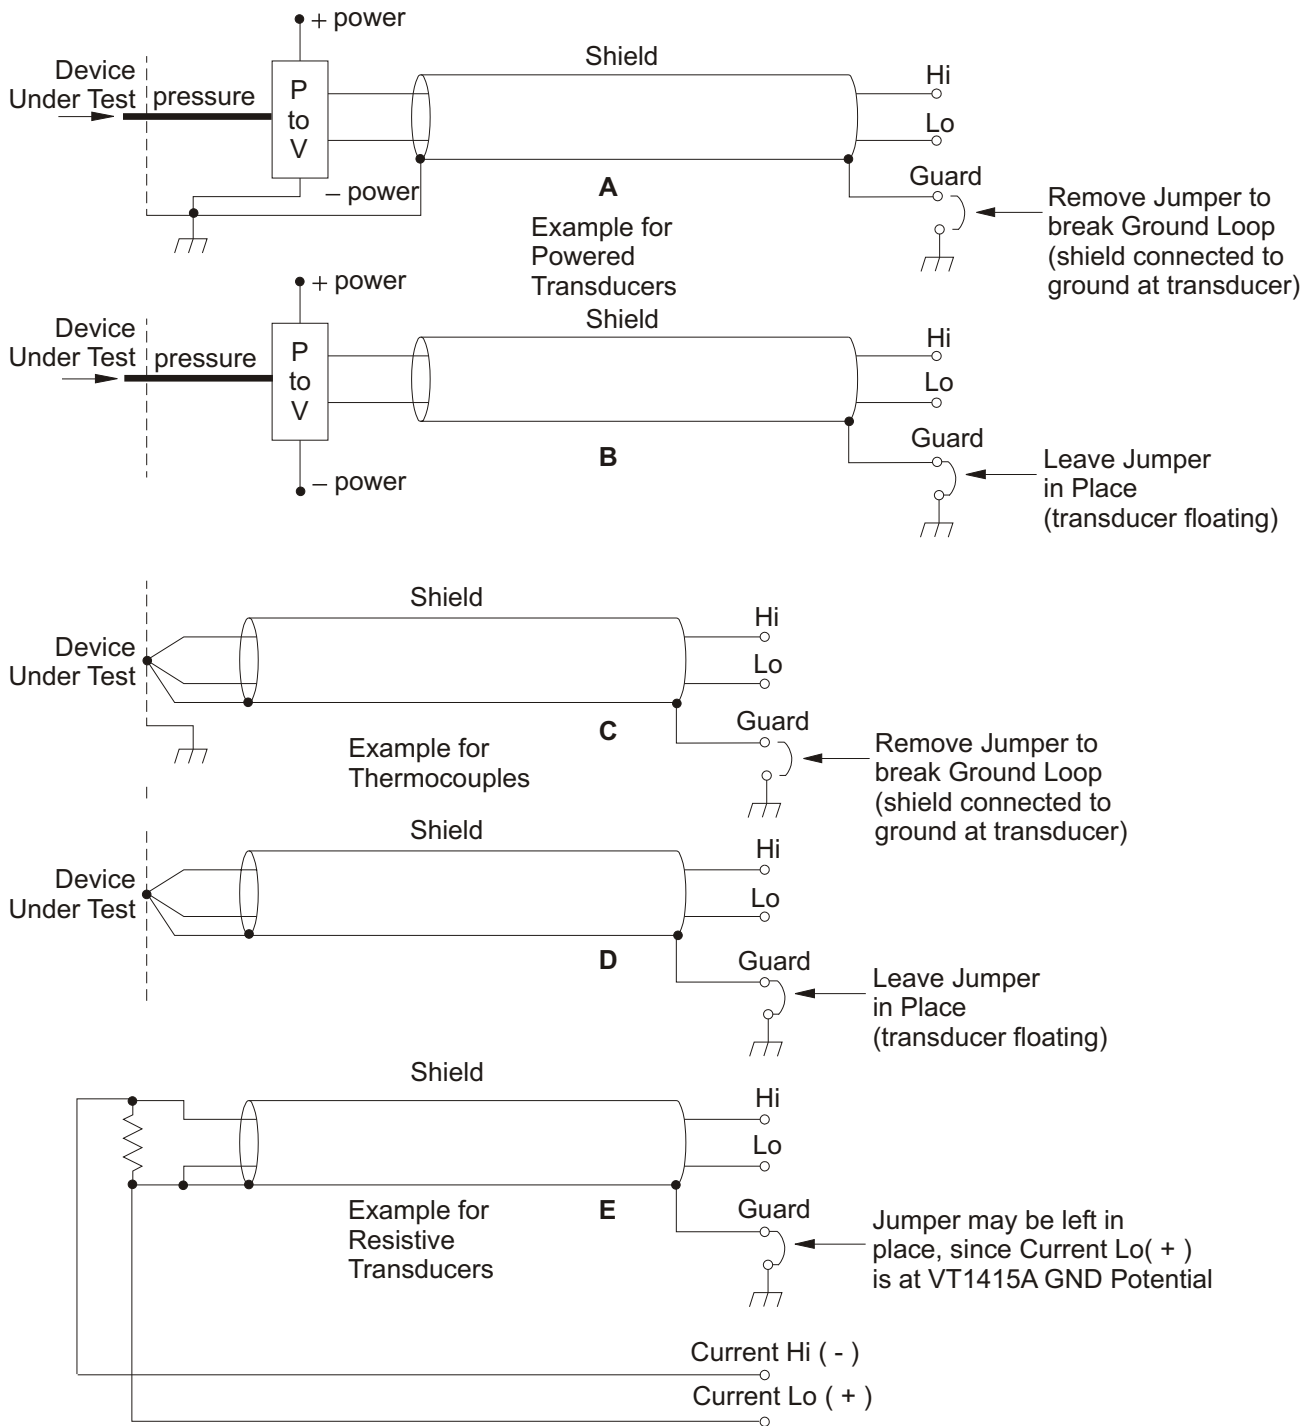

Figure 2-6: Preferred Signal Connections
For any A/D Module to scan channels at high speeds, it must use a very short sample period ($< 10 \mu\text{s}$ for the VT1415A). If significant normal mode noise is presented to its inputs, that noise will be part of the measurement. To make quiet, accurate measurements in electrically noisy environments, use properly connected shielded wiring between the A/D and the device under test. Figure 2-6 shows recommended connections for powered transducers, thermocouples, and resistance transducers. (See Appendix E for more information on Wiring Techniques).
- a. **Grounded Transducer with shield connected to ground at the transducer:** Low frequency ground loops (dc and/or 50/60 Hz) can result if the shield is also grounded at the Terminal Module end. To prevent this, remove the GND-GRD jumper for that channel (Figure 2-6 A/C).
- b. **Floating Transducer with shield connected to the transducer at the source:** In this case, the best performance will most likely be achieved by leaving the GND-GRD jumper in place (Figure 2-6 B/D).